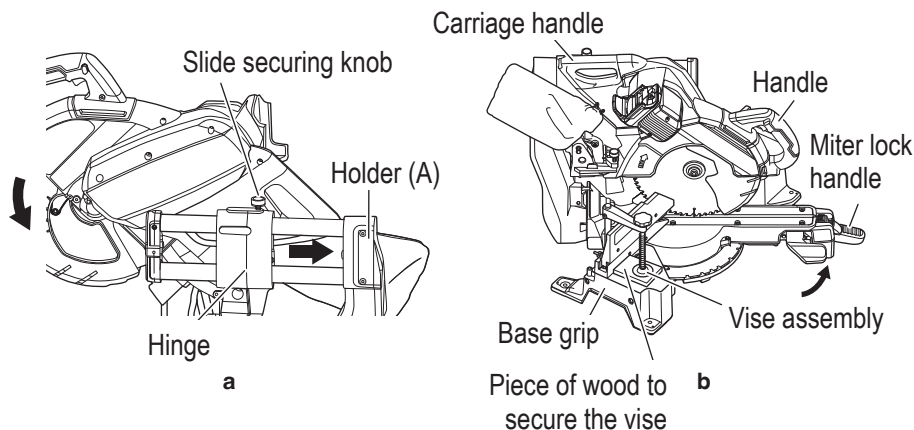

Fig. 42
The vice assembly could be dropped during transportation. Either remove the assembly or slip a piece of wood between the vice to firmly secure it. (Fig. 42-b)
Down the head and insert the locking pin (see page 78 "5. Releasing the locking pin"). Also screw in the slide securing knob so that the hinge is positioned to hit the holder (A) and secure the head. (Fig. 42-a)
Lift up the miter lock handle, turn the turntable as far right as it will go, and secure the turntable by press down the miter lock handle to the fixed position. This will make the main body even more compact. (Fig. 42-b)